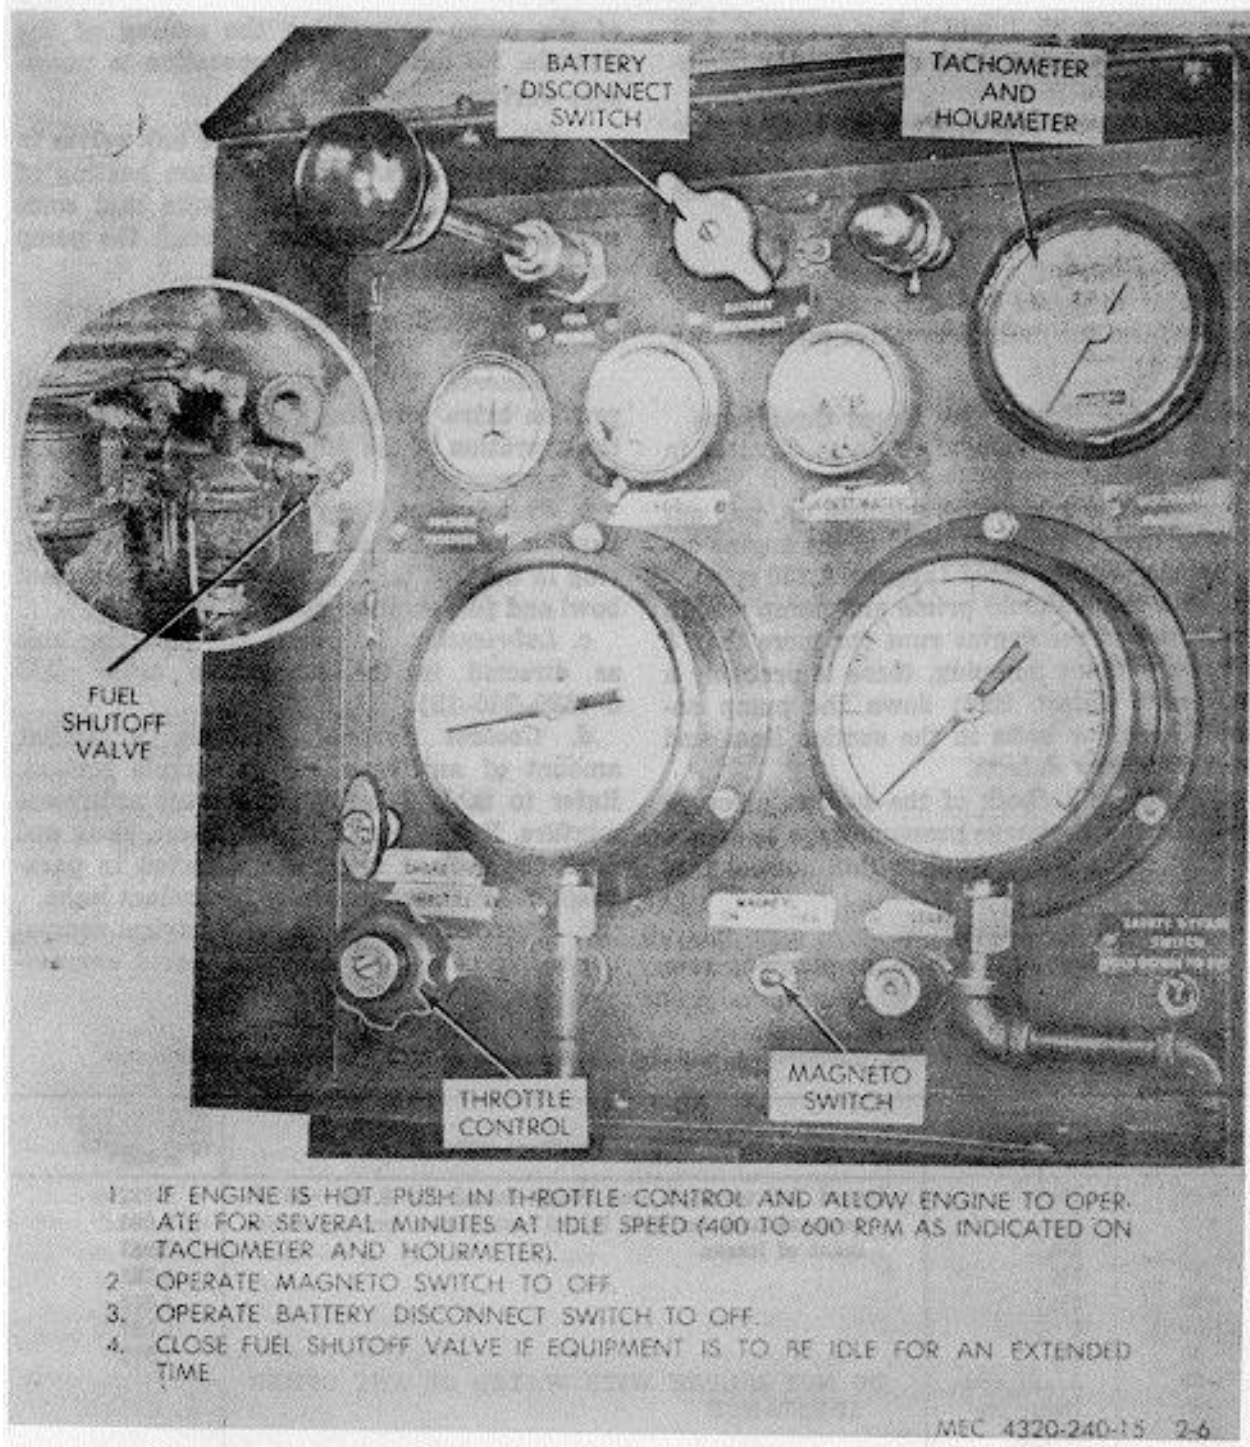

Figure 2-6. Stopping procedure.
a. Refer to figure 2-6 and stop the engine.